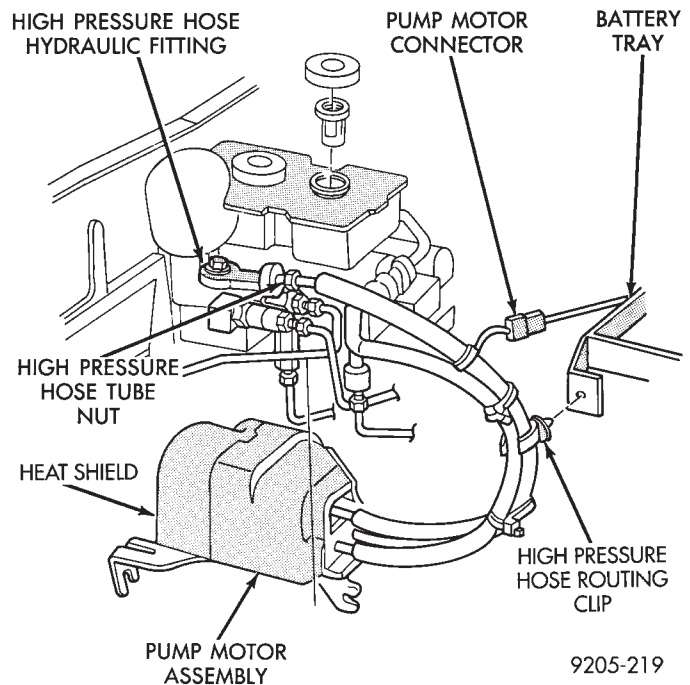

Fig. 7 Brake Tube and Hose Routing at Hydraulic Unit
(2) Remove fresh air intake duct and air cleaner from vehicle.
(3) Remove the windshield washer fluid bottle from the vehicle.
(4) Disconnect all electrical connectors from the hydraulic assembly.
(5) Remove as much fluid as possible from the reservoir on the hydraulic assembly.
(6) Remove pump high pressure hose fitting (Fig. 7) from hydraulic assembly.
(7) Disconnect pump return hose from steel tube. Cap the end of the steel tube.
(8) Disconnect the 4 brake tubes from the hydraulic assembly (Fig. 7).
(5) Install all 4 brake tubes on the hydraulic assembly (Fig. 7) and torque tube fittings to their specified values (See Torque Specifications). If proportioning valves were removed from the hydraulic assembly, install and tighten to 40 N•m (30 ft. lbs.) torque.
(6) Install return hose on steel tube. Tighten the return hose clamp to 1 N•m (10 in.lbs.)
(7) Install high pressure hose to hydraulic assembly (Fig. 7). Tighten the hose, to hydraulic assembly fitting to 16 N•m (145 in. lbs)